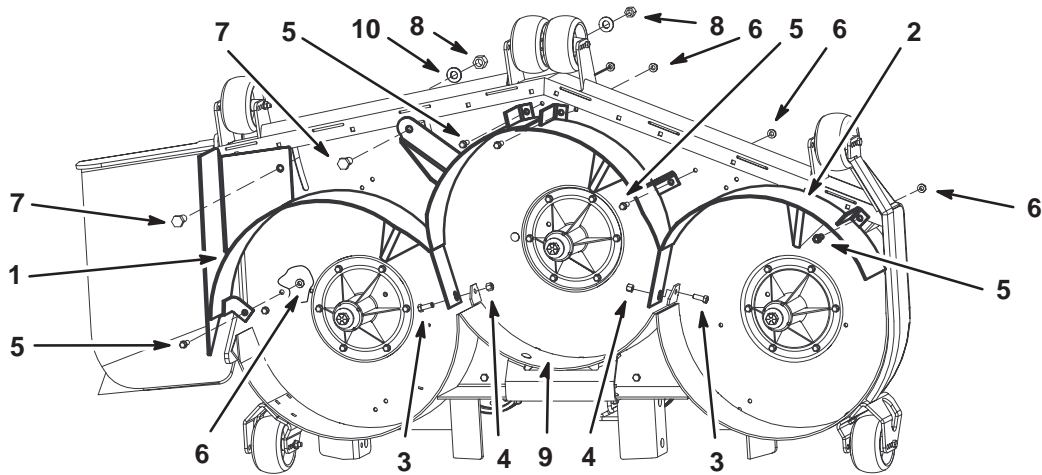

Figure 4
2. Secure the right baffle to the top of the mower with 2 bolts (1/2 x 1 inch), 2 tapping bolts (3/8 x 1 inch), 2 nuts (1/2 inch), 2 washers (1/2 inch) and 2 flange nuts (3/8 inch) (Fig. 4).
3. Secure the right baffle to the rear baffle with 1 bolt (3/8 x 1 inch) and 1 nut (3/8 inch) (Fig. 4).
5. Secure the left baffle to the top of the mower with 3 tapping bolts (3/8 x 1 inch) and 3 flange nuts (3/8 inch) (Fig. 4).
6. Secure the left baffle to the rear baffle with 1 bolt (3/8 x 1 inch) and 1 nut (3/8 inch) (Fig. 4).